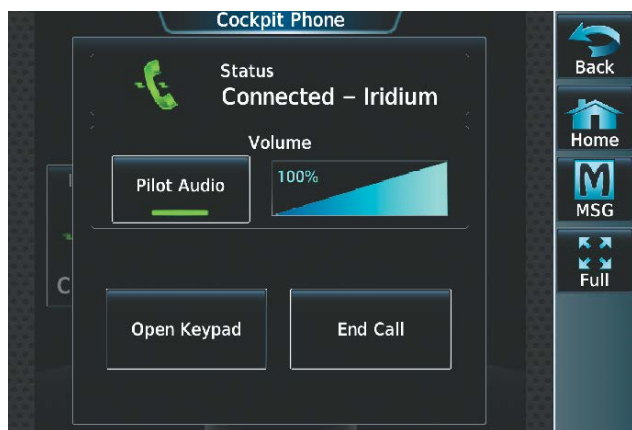

Figure 8-66 Open Keypad Button
- 2) Touch the **Cockpit** Phone Button. The Cockpit Phone Screen is displayed (Figure 8-66).